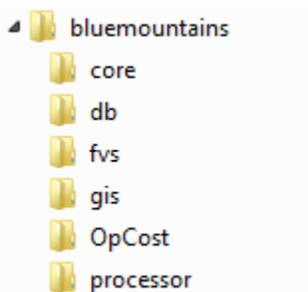

Figure 2.3 –Directory structure of a BioSum project.
6. When a project is created, the project root directory and subfolders in Figure 2.3 are created.